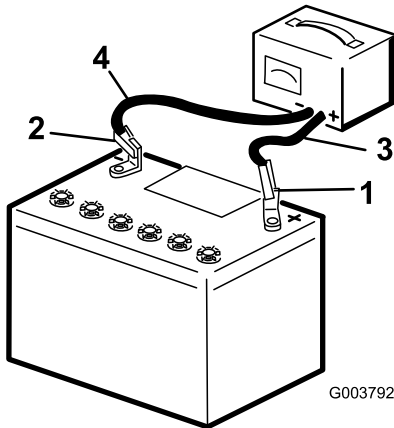

Figure 93
5. Connect the positive lead of the battery charger to the positive battery post (Figure 93).
6. Connect the negative lead of the battery charger to the negative battery post (Figure 93).
8. When the battery is fully charged, unplug the charger from the electrical source, then disconnect the charger leads from the battery posts (Figure 93).